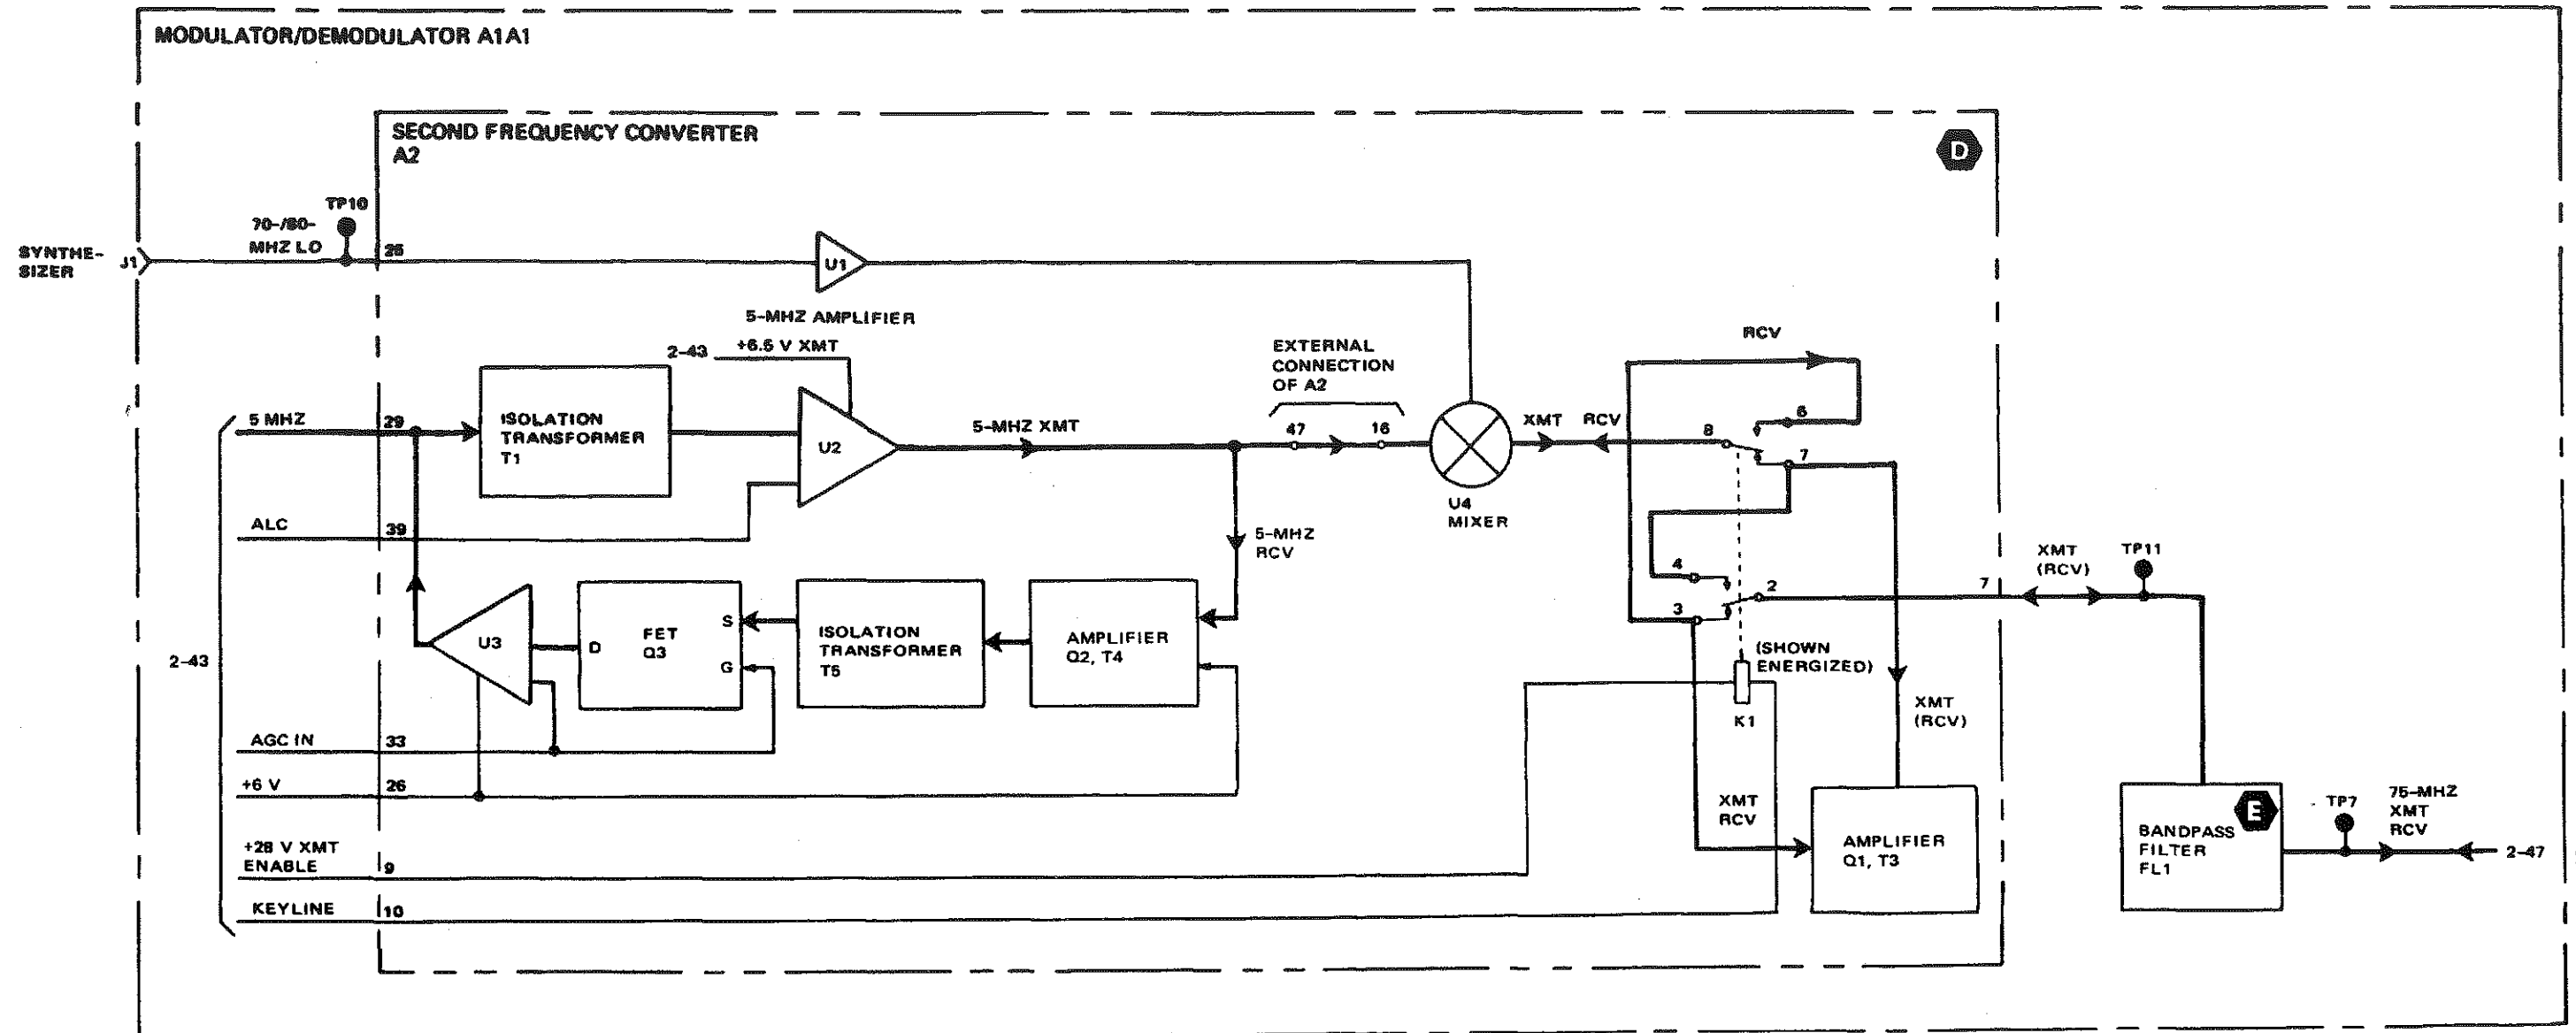

Figure 2-17. Frequency Converters (Sheet 2)
**FREQUENCY CONVERTERS (5 of 6), fig 2-17, sh 3**